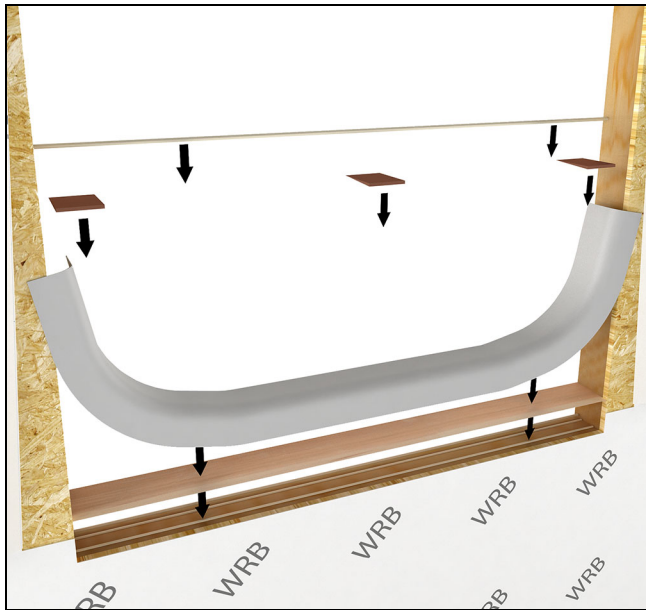

Figure 6
1. The method shown below is Method A1 using a TYPE III flash pan. For step by step instructions on how to prepare an opening using this method, refer to [www.marvin.com/f/1019562/x/f88293723e/window-rough-opening-prep-and-flashing-19913776.pdf](http://www.marvin.com/f/1019562/x/f88293723e/window-rough-opening-prep-and-flashing-19913776.pdf) for instructions titled "Window Rough Opening Prep and Flashing Method A1-Membrane Drainage System". Refer to ASTM E2112-07 for other rough opening preparations that are more appropriate for your situation. See Figure 6.